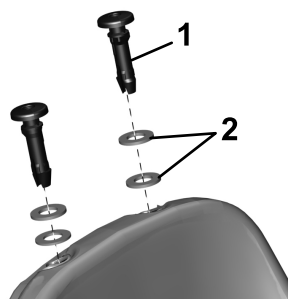
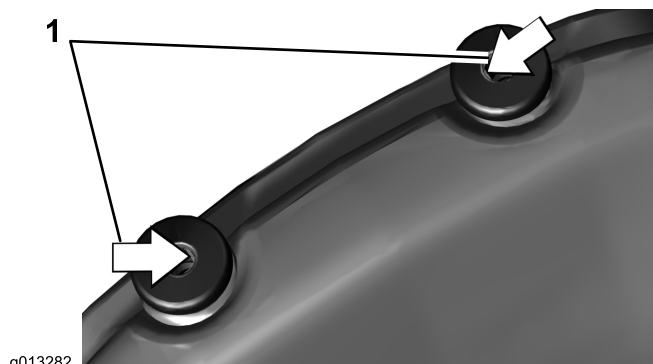

Figure 2
Figure 3
4. Insert two rubber washers onto each backrest extension bushing (Figure 2).
1. Backrest extension bushing (2)
5. Insert a backrest extension bushing into each hole on the top of the seat (Figure 2). Make sure the ratchet pins inside the bushings are positioned toward the center of the seat back (Figure 3).